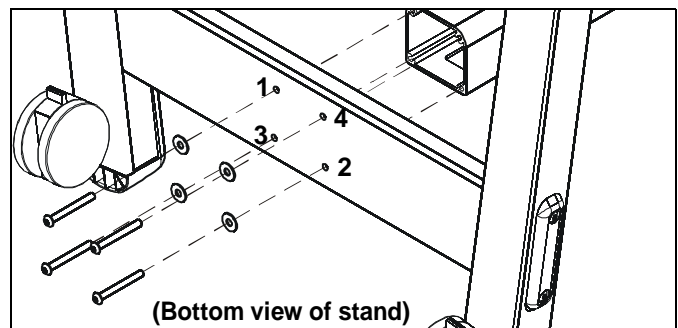
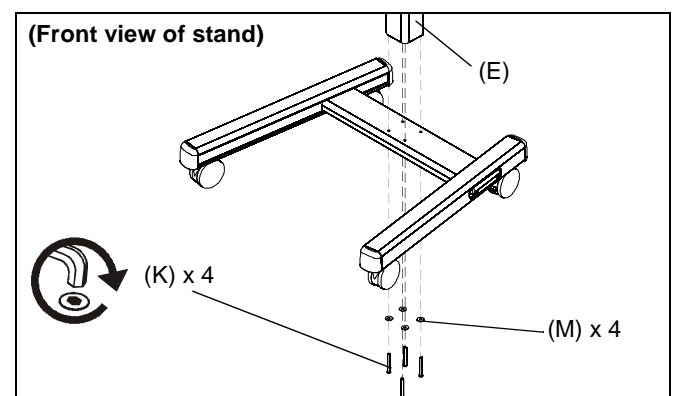

Figure 3
Figure 4
NOTE: Insert and turn screws in order shown (1, 2, 3, 4). (See Figure 3)
5. Attach upright (E) to leg assembly using four 5/16-18 x 2-3/4" button head cap screws (K) and four 5/16" washers (M). (See Figure 3) and (See Figure 4)